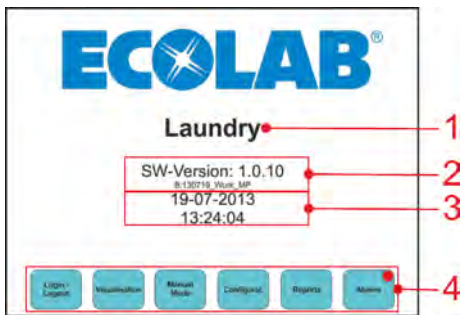

Fig. 6: Start-up / Main menu
*After a successful system start, the "main menu" appears (↪ *Chapter 6.2.1 'Displays – Start-up / Main menu' on page 28, Fig. 6*) on the control cabinet display (↪ *Chapter 4.1 'Construction' on page 22, Fig. 1, Pos. 1.*)*